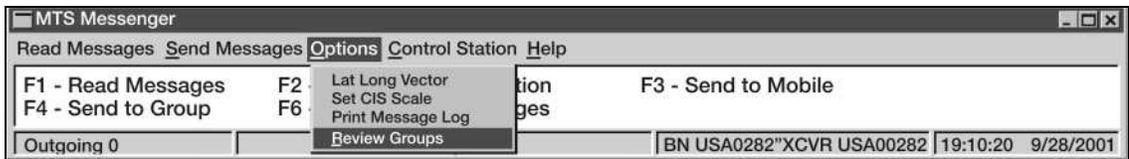

Figure 3-103. Review Vehicle Groups
- a. To review the vehicles assigned to various groups, select Review Groups from the Options Menu of MTS Messenger (see Figure 3-103).